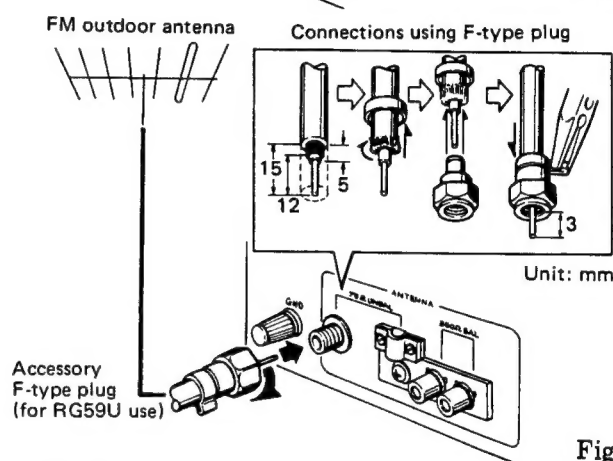

Fig. 4
**Connections using the F-type connector:** Refer to Fig. 4 and follow the procedure. Prepare the end of the coaxial cable and attach the accessory F-type plug.